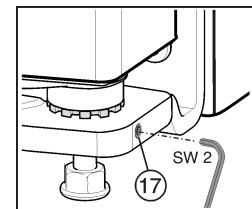

Fig. 30
- ▶ Unscrew the threaded pin Fig. 30 (17) a little (no more than one turn).
- ▶ Screw the threaded pin Fig. 30 (17) in again to fix the bearing pin.